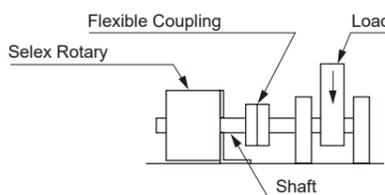

Figure 2 Radial Load
If unavoidable, use a mechanism where only rotational force is transmitted, as shown in Figure 2. To prevent shaft breakage, bearing wear/seizure, etc., connect the shaft tip and load with a flexible coupling, etc., that does not cause prying at any position within the oscillation range.
(2) Next, release the seal washer from the cap (2) by hand to the state shown in Figure 2.